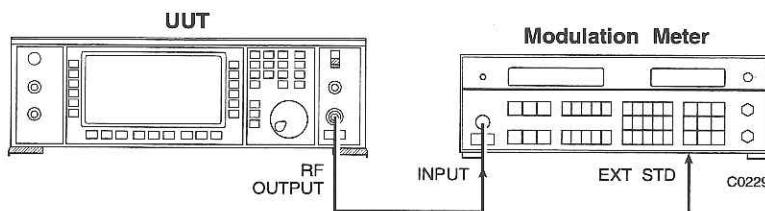

Fig. 5-2-9 Equipment configuration for the phase modulation tests
- (1) Connect the RF OUTPUT on the UUT to the RF input on the modulation meter. Connect an external standard to the modulation meter. Equipment configuration is shown in Fig. 5-2-9.